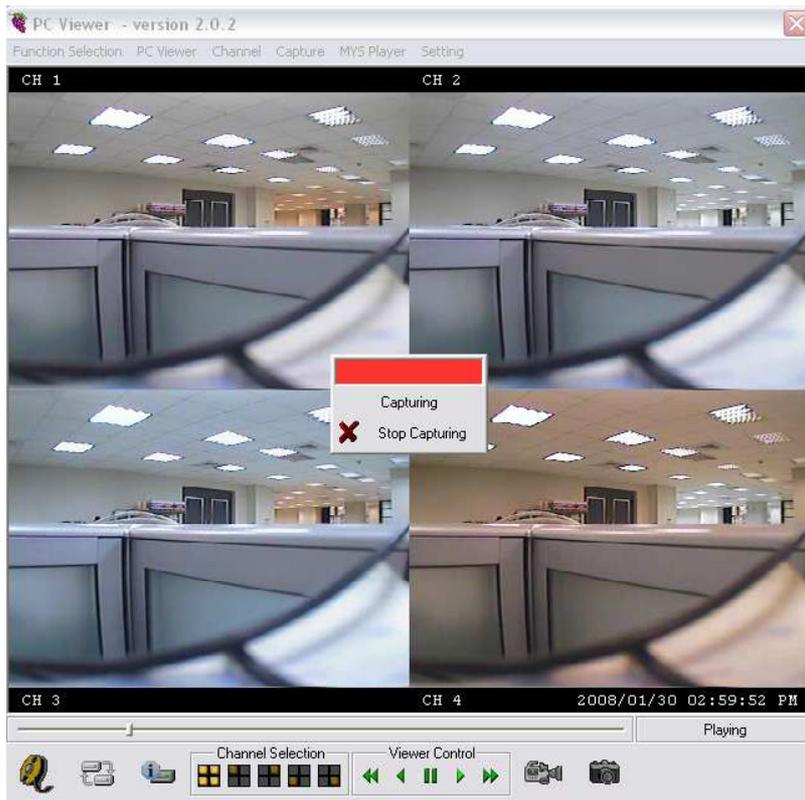
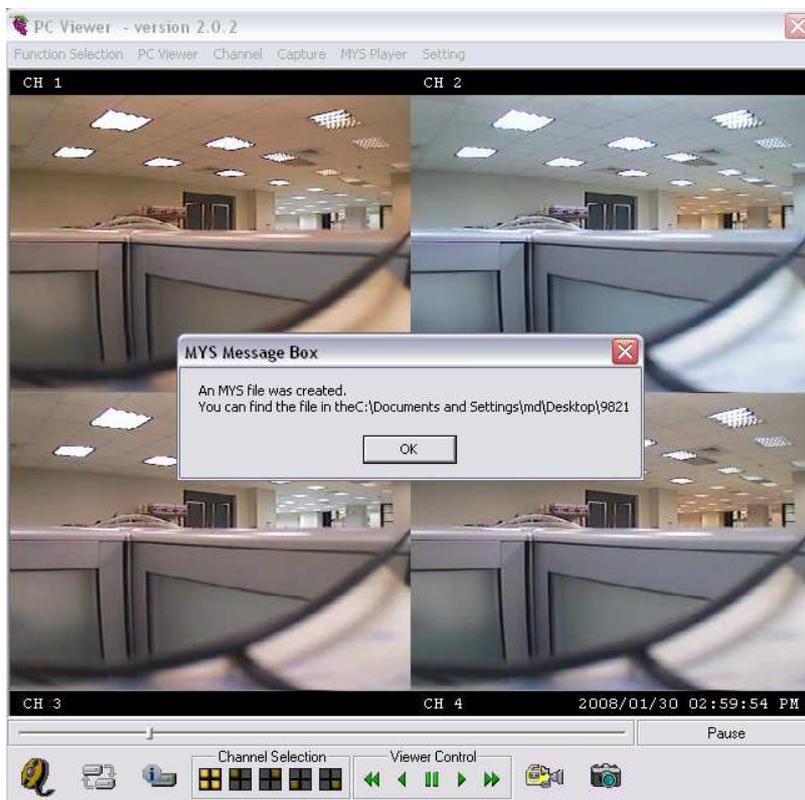

Figure 3
Figure 4
-  : When recording videos onto the PC, first click the “Pause” button, then “Now Recording” button on the graphic shown by “Figure 3”. Click again to stop recording (shown on the graphic by “Figure 4”) and the PC Player Software auto creates storage content “Capture MYS”.